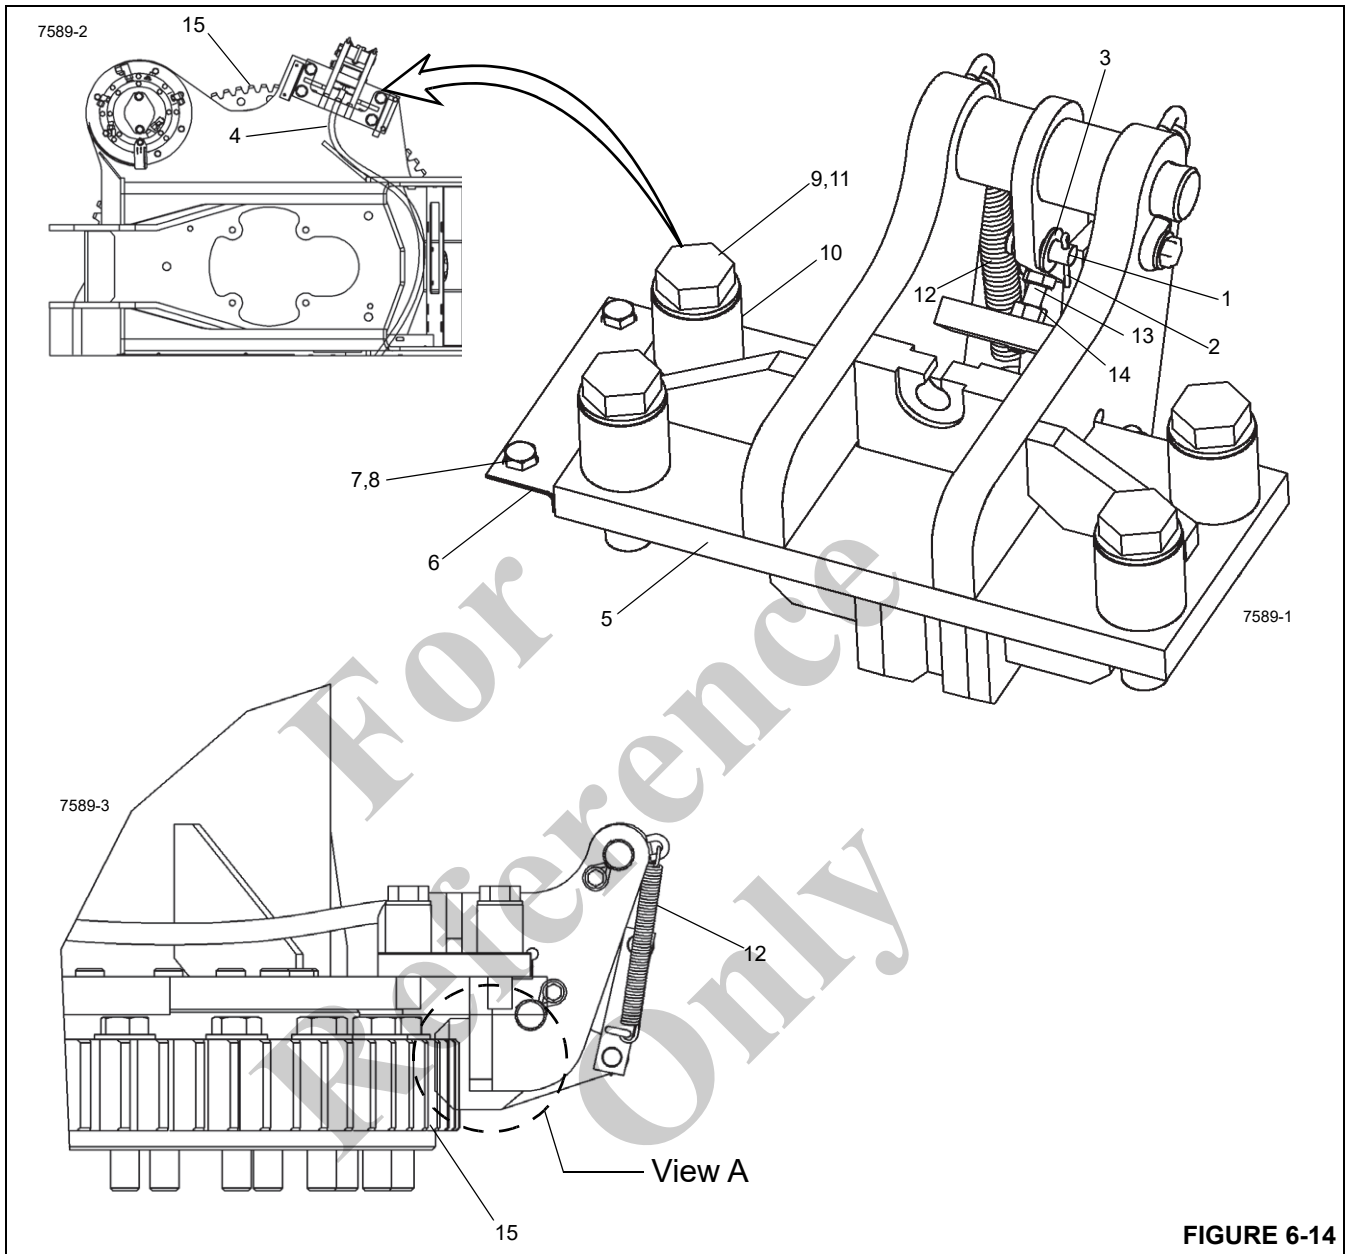

FIGURE 6-14
See Figure 6-14 for the following procedures.
3. Attach the cable (4) to the swing lock (5) with the clevis pin (1), cotter pin (2), and washer (3).
4. Adjust the cable (4) using the following procedure.
- b. Figure 6-14 shows a side view (A) of the swing lock engaged with the swing bearing ring gear (15).